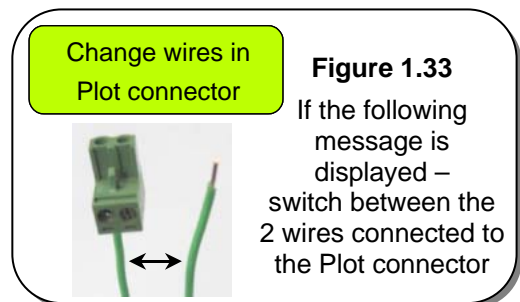

Figure 1.33
- In a case you connected the Perimeter Wire in the opposite direction, '**Change wires in plot connector**' message will be displayed upon pressing GO, instructing you to switch between the two wires connected to the Plot connector (Figure 1.33).